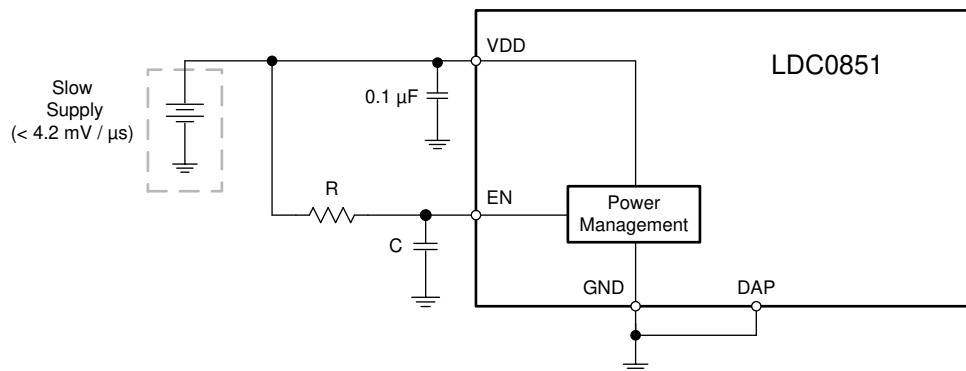

图 7-9. Supply Connections for Slow Ramp Rate
For supply ramp rates slower than 4.2 mV/ $\mu\text{s}$ , an RC low pass filter must be added to the enable input (EN) as shown in 图 7-9. Alternatively, the EN pin may be tied to a nanotimer or microcontroller to wake up the LDC0851 after VDD has ramped to its nominal value.